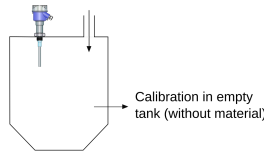

Figure 51: Calibration without Material
- Dip the Casper into test tank as shown in Figure 51.